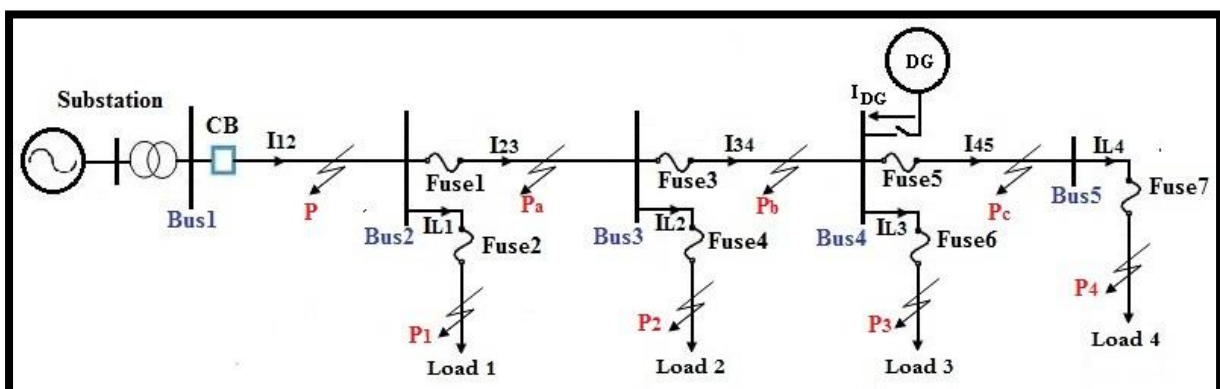

Fig. 2: Single Line Diagram for question # 2
Consider the typical 33 kV radial distribution system with the topology shown in Fig. 2 **without DG**. All bus loads are 1 MW with power factor 0.9 x . The maximum fault current at each position of protection device are given in Table I in the next page.
- c) If a distributed generation is connected to Bus 4 as shown in Fig. 2, describe the fault current passing through each protection device as shown in the Table II in the next page.